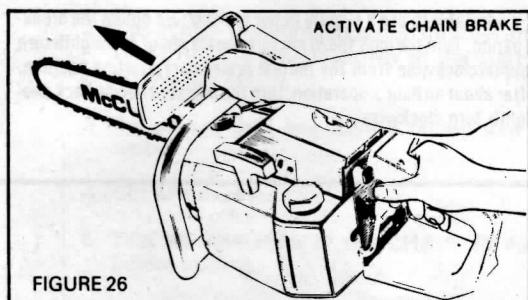

FIGURE 26
5. Squeeze the throttle trigger to wide open throttle. As soon as full throttle is reached, immediately activate the **CHAIN BRAKE[®]** lever. (Figure 26).